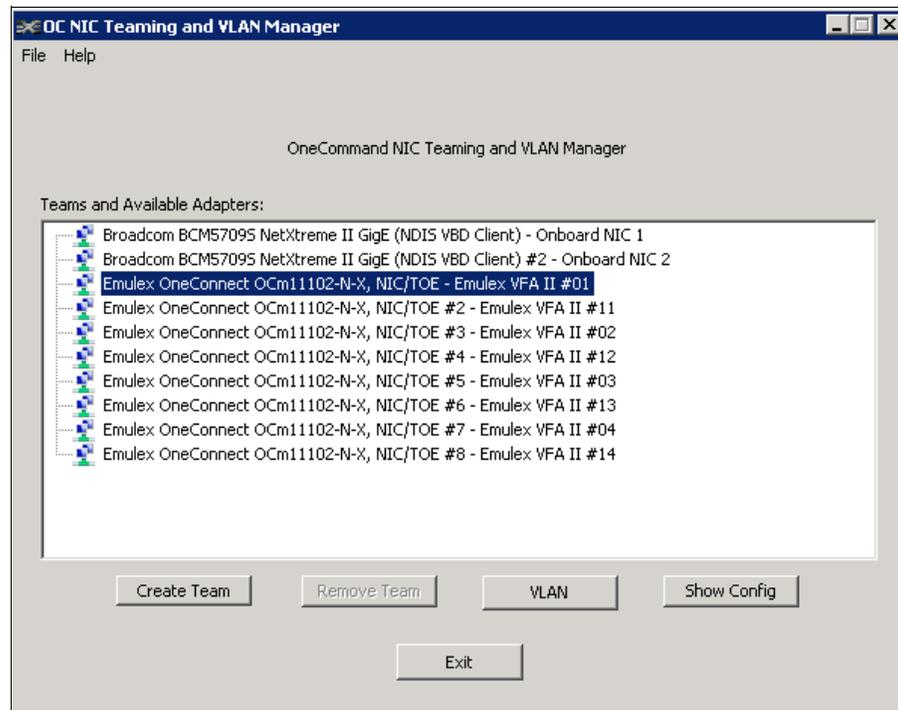

Figure 9-27 Emulex OneCommand Manager utility
1. In the OC NIC Teaming and VLAN Manager window (Figure 9-27), click **Create Team**.